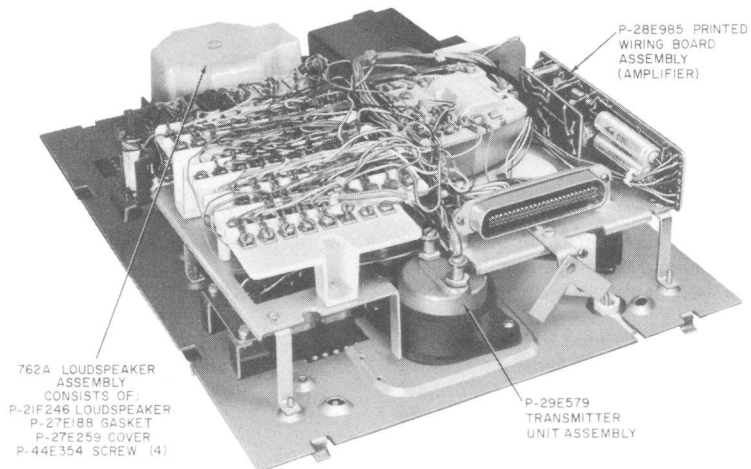

Fig. 1—Speakerphone Components
3.01 Maintenance of the speakerphone components of these sets (Fig. 1) is limited to checking for loose or broken connections and replacement of defective units.